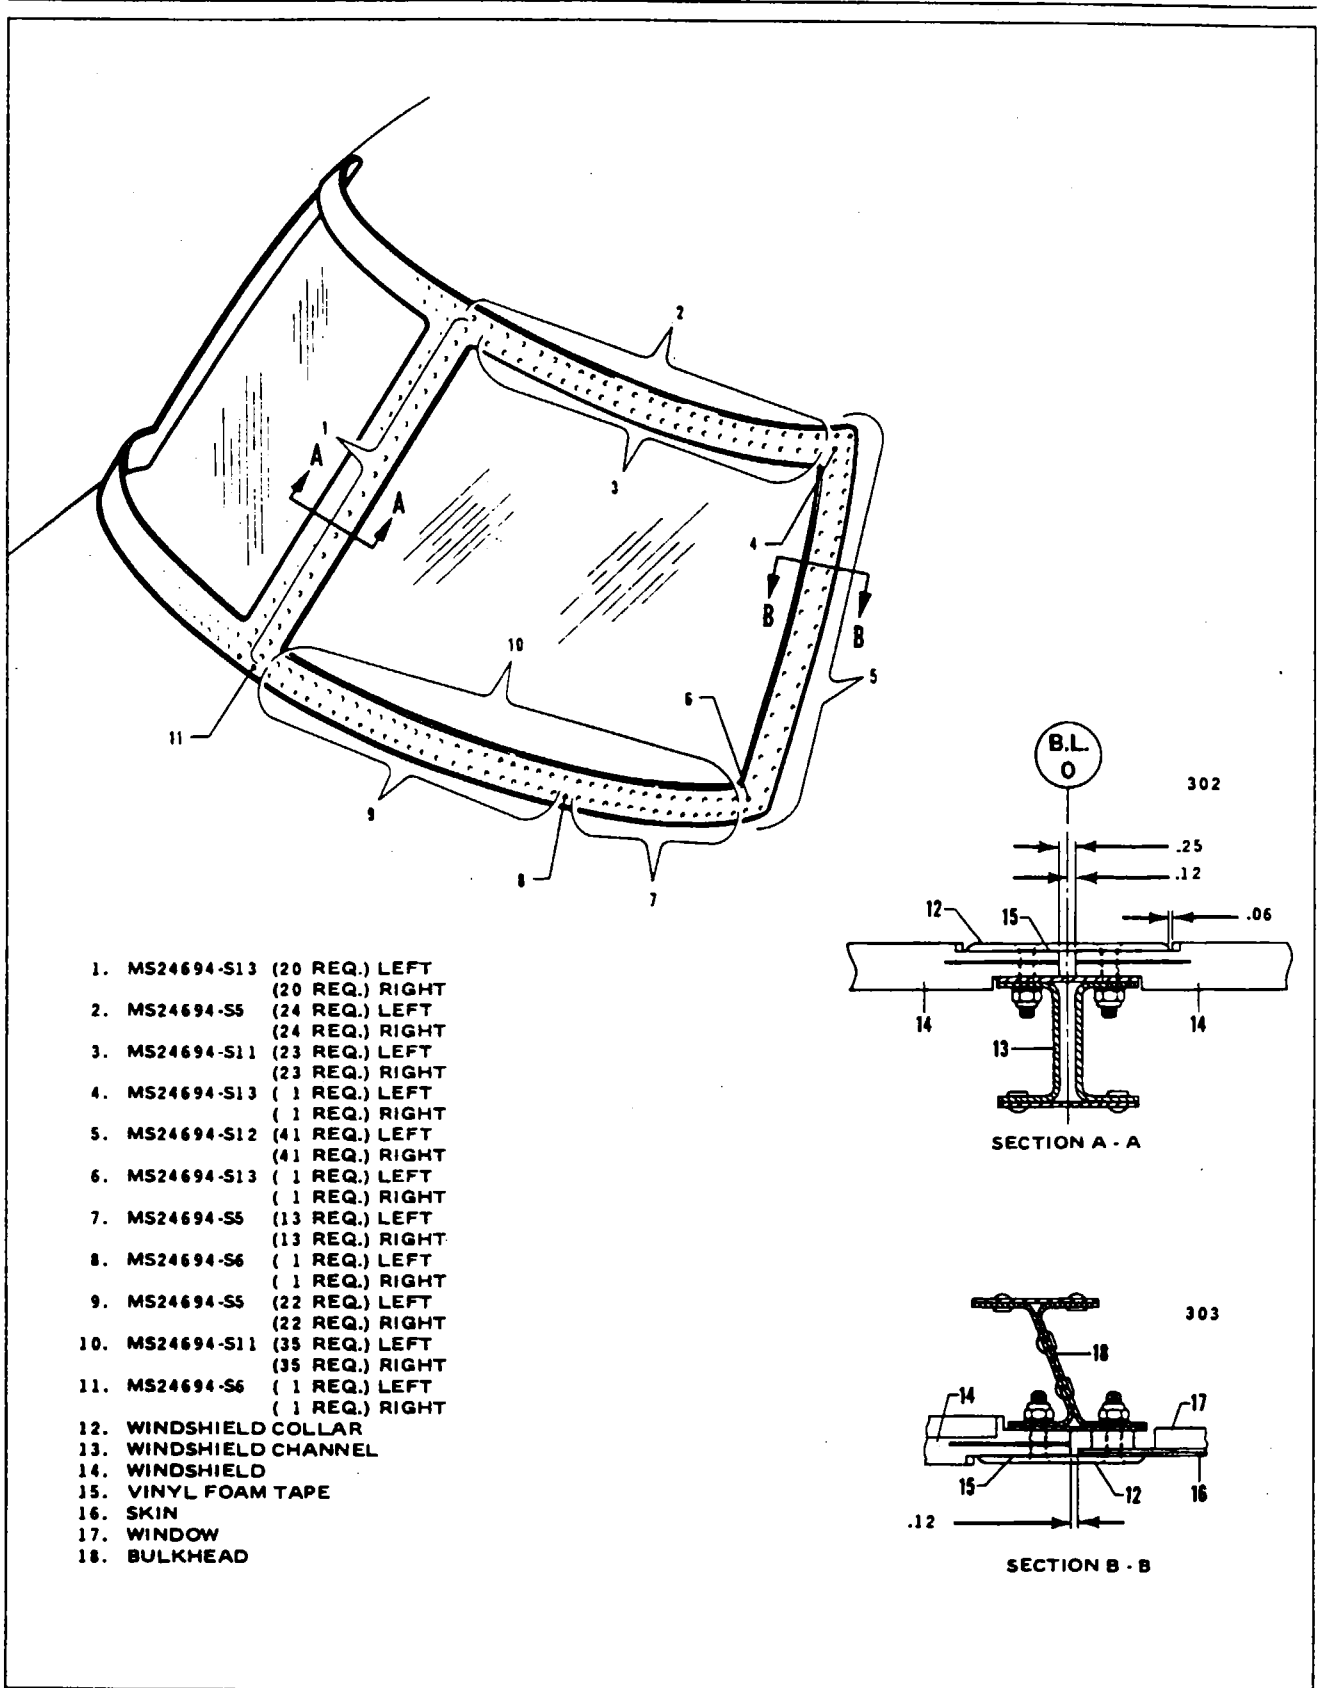

Figure 4.6: Windshield Installation
4-40. REMOVAL OF WINDSHIELD. (Refer to Figure 4-6.)
4-41. INSTALLATION OF WINDSHIELD. (Refer to Figure 4-6.)
- f. Position the collar over the windshield and install the machine screws, being certain to install the screws in the same location that they were removed from. Refer to Figure 4-6 for proper screw type and location.